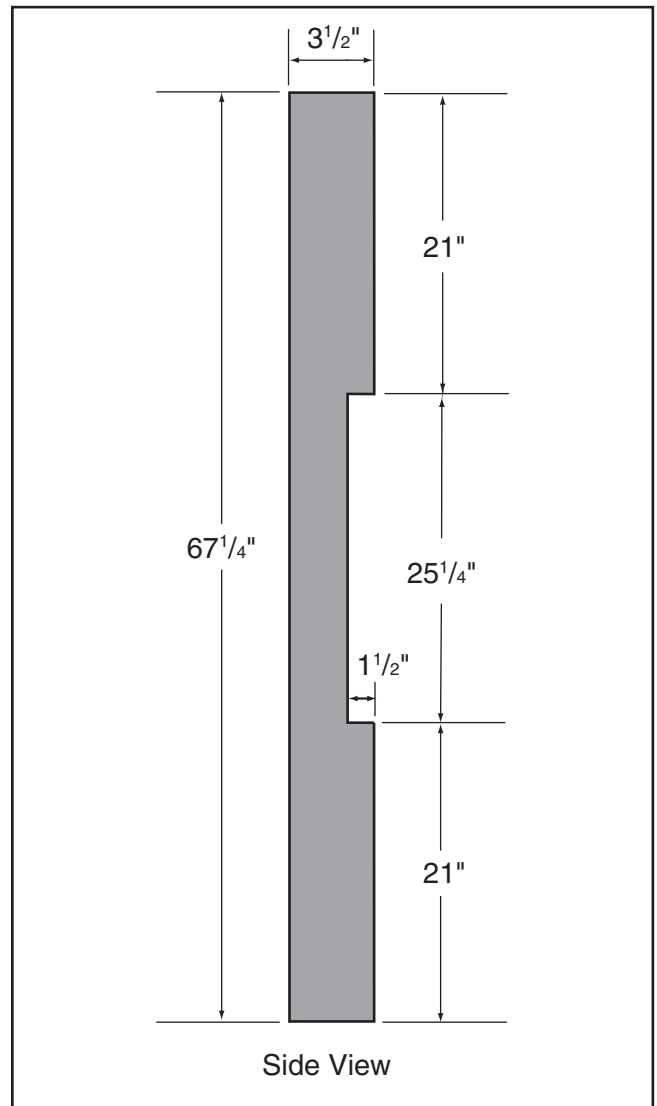

Figure 45. Dimensions of coplanarity gauge.
1. Make the "Coplanarity Gauge" shown in **Figure 45**.